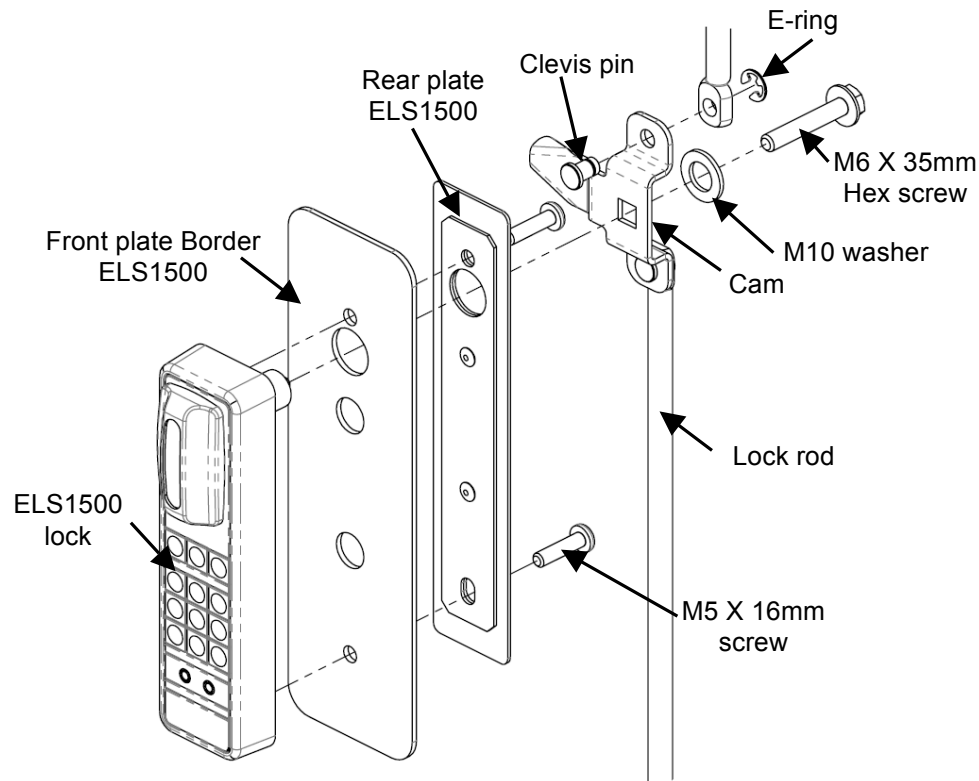

Fig. 4
1. Install the Three point ELS1000 (Fig. 4) onto double door.